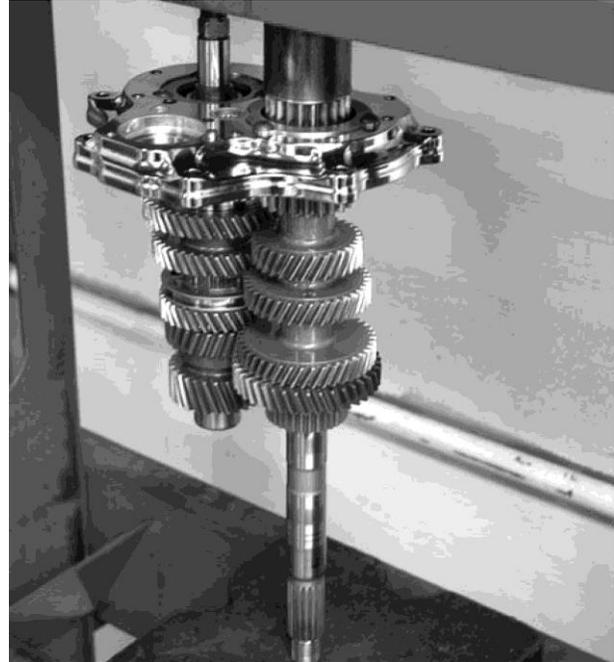

FIGURE 18 | ALIGN THE MAINSHAFT WITH THE COUNTERSHAFT AND START THE END OF THE SHAFT INTO THE BEARING. POSITION THE SHAFT ON THE PRESS.
- Align the mainshaft in the bearing door in the same manner as shown in figures 18 and 19. The mainshaft pinion gear (item 14, page 5) is what is pressed onto the mainshaft and it must be done with the press as shown.